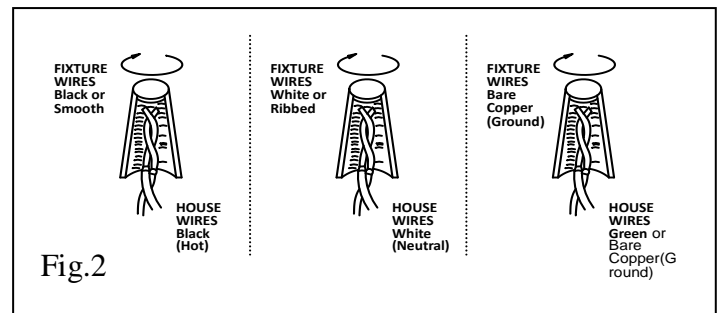

Fig.2
CONNECTING THE WIRES (FIG. 2)
4. At this point, connect the electrical wires as shown in Fig. 2, making sure that all wire connectors are secured. If your outlet has a ground wire (green or bare copper), connect the fixtures ground wire to it. Otherwise, connect the fixture ground wire directly to the mounting plate (A) using the green screw provided. After wires are connected, tuck them carefully inside the junction box.
5. Place the fixture's back plate (C) over the mounting back plate (A) and secure with screws (D/SIZE: 'M4*8MM).